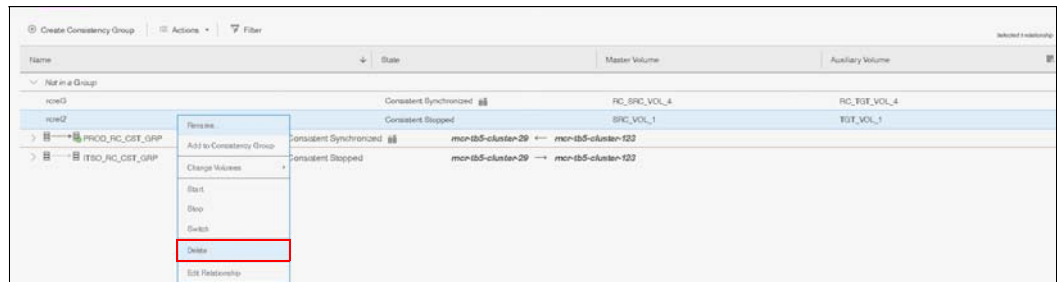

Figure 10-151 Selecting the Delete Relationship option
3. Click **Actions** → **Delete**, as shown in Figure 10-151.